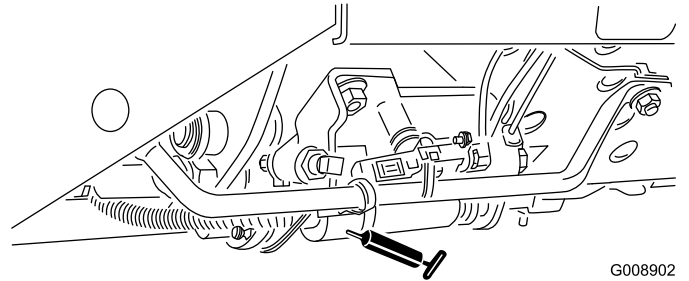

Figure 44
- Mow/transport slide (Figure 44)